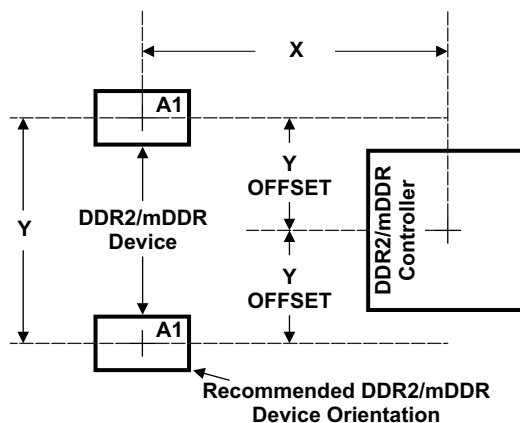

Figure 6-20. C6742 and DDR2/mDDR Device Placement
Figure 6-19 shows the required placement for the device as well as the DDR2/mDDR devices. The dimensions for Figure 6-20 are defined in Table 6-28. The placement does not restrict the side of the PCB that the devices are mounted on. The ultimate purpose of the placement is to limit the maximum trace lengths and allow for proper routing space. For single-memory DDR2/mDDR systems, the second DDR2/mDDR device is omitted from the placement.
(1) See Figure 6-20 for dimension definitions.
(2) Measurements from center of device to center of DDR2/mDDR device.